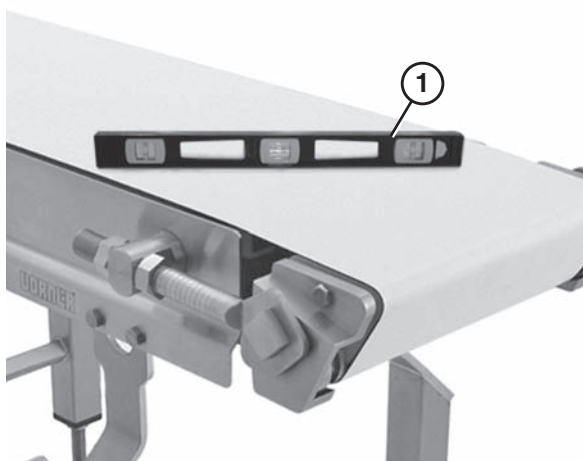

Figure 3
Conveyor **MUST** be mounted straight, flat and level within confines of conveyor. Use a level (Figure 3, item 1) during setup.